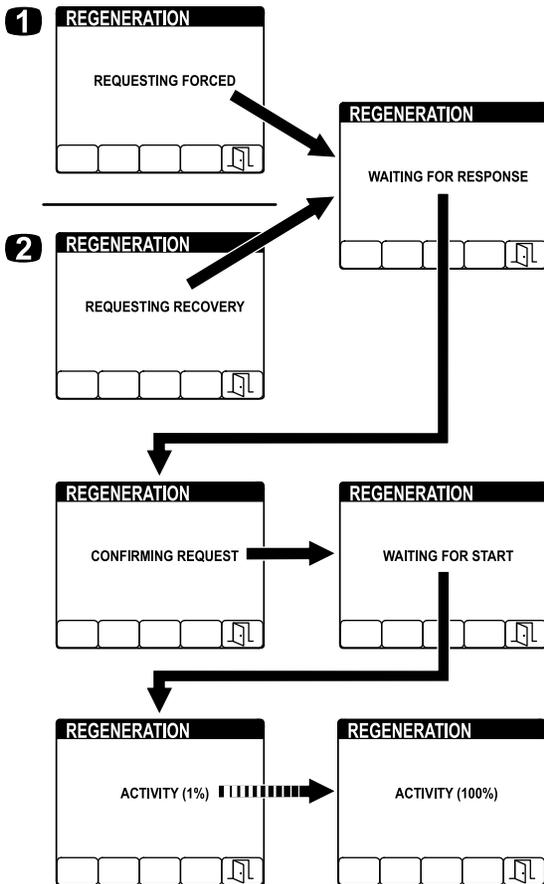

Figure 69
4. The InfoCenter displays a series of screens (Figure 69) as the regeneration processes: